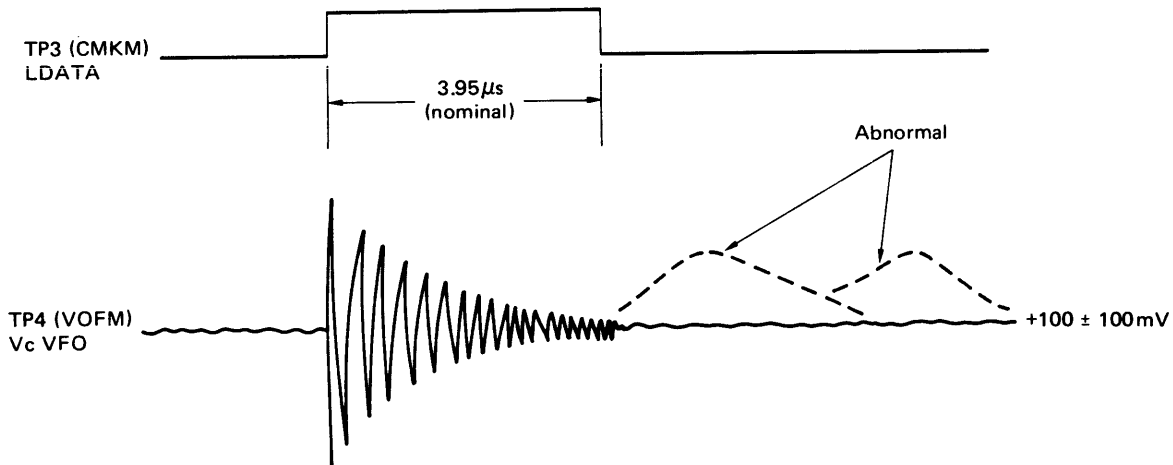

Figure 6-6-21 VFO Frequency Adjustment
5. After the adjustment confirm TP4 signal as shown in Fig. 6-6-21 by enabling read operation. Trigger it with the positive-going edge of TP3 (LDATA: CMKM PCB).